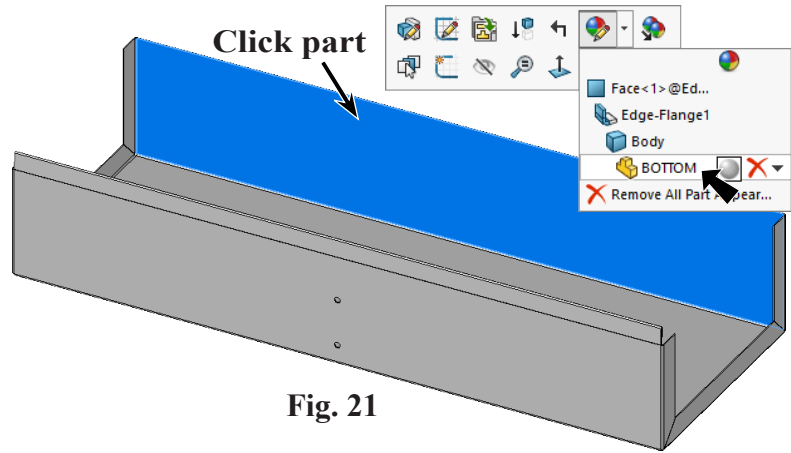

Fig. 21
Step 2. Click the part, click **Appearance Callout**  on the context toolbar and click **BOTTOM** , Fig. 21.